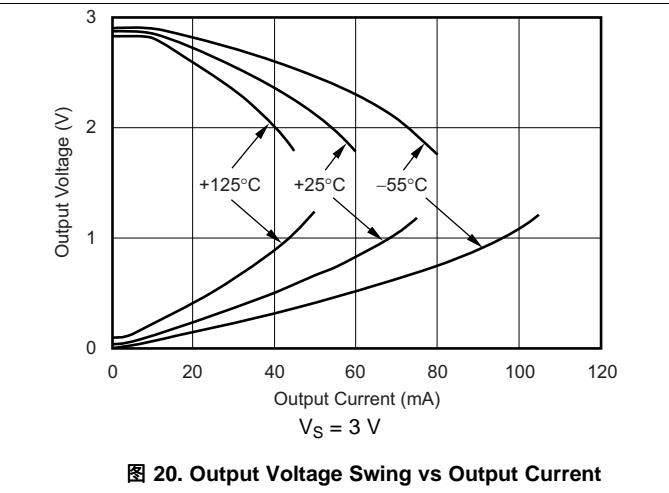
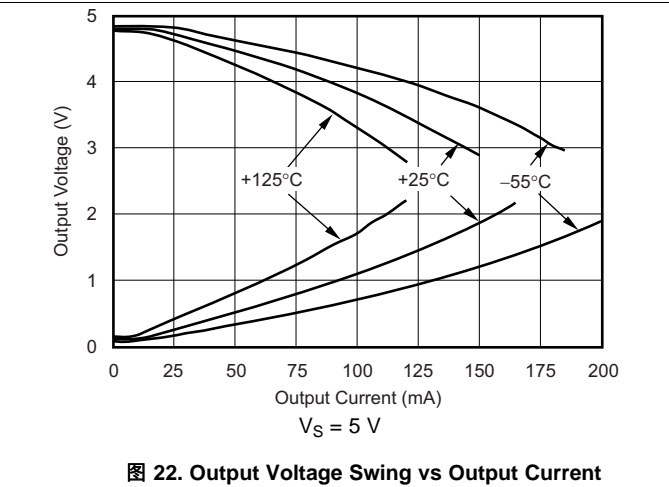
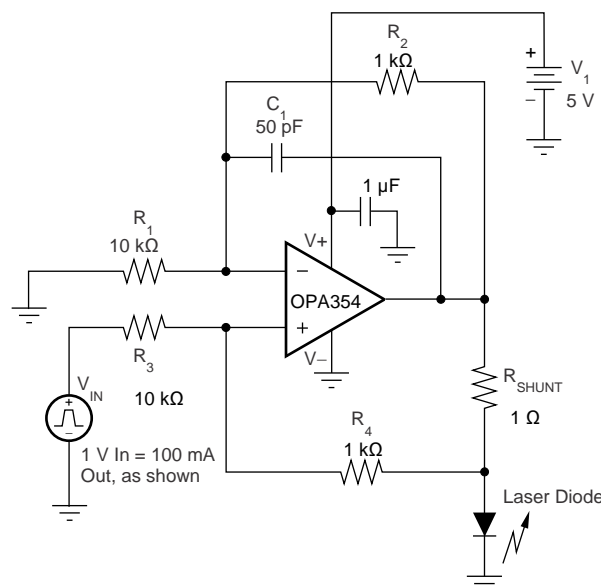
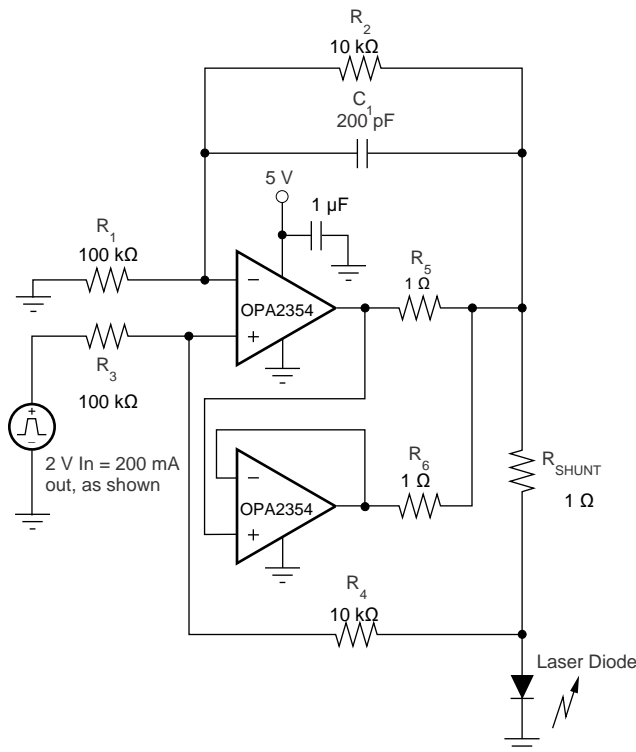

图 20. Output Voltage Swing vs Output Current
图 22. Output Voltage Swing vs Output Current
图 30. Laser Diode Driver
图 31. Parallel Operation
(1) See typical characteristic curves, *Output Voltage Swing vs Output Current* (图 20 and 图 22).
(2) Specified by design.
A class AB output stage with common-source transistors achieves rail-to-rail output. For high-impedance loads ($> 200 \Omega$), the output voltage swing is typically 100 mV from the supply rails. With 10- Ω loads, a useful output swing is achieved while maintaining high open-loop gain. See the typical characteristic curves, *Output Voltage Swing vs Output Current* (图 20 and 图 22).
The OPAX354 output stage supplies a continuous output current of ± 100 mA and yet provide approximately 2.7 V of output swing on a 5-V supply, as shown in 图 30. For maximum reliability, TI does not recommend running a continuous DC current in excess of ± 100 mA. See the typical characteristic curves, *Output Voltage Swing vs Output Current* (图 20 and 图 22). For supplying continuous output currents greater than ± 100 mA, the OPAX354 may be operated in parallel, as shown in 图 31.